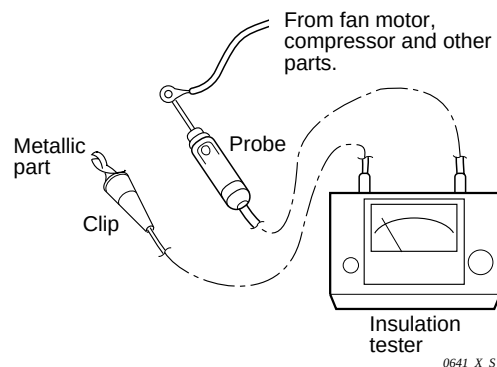

Fig. 4-5
- Similarly, disconnect the lead wires from the compressor, capacitor, etc. (**Fig. 4-5**)